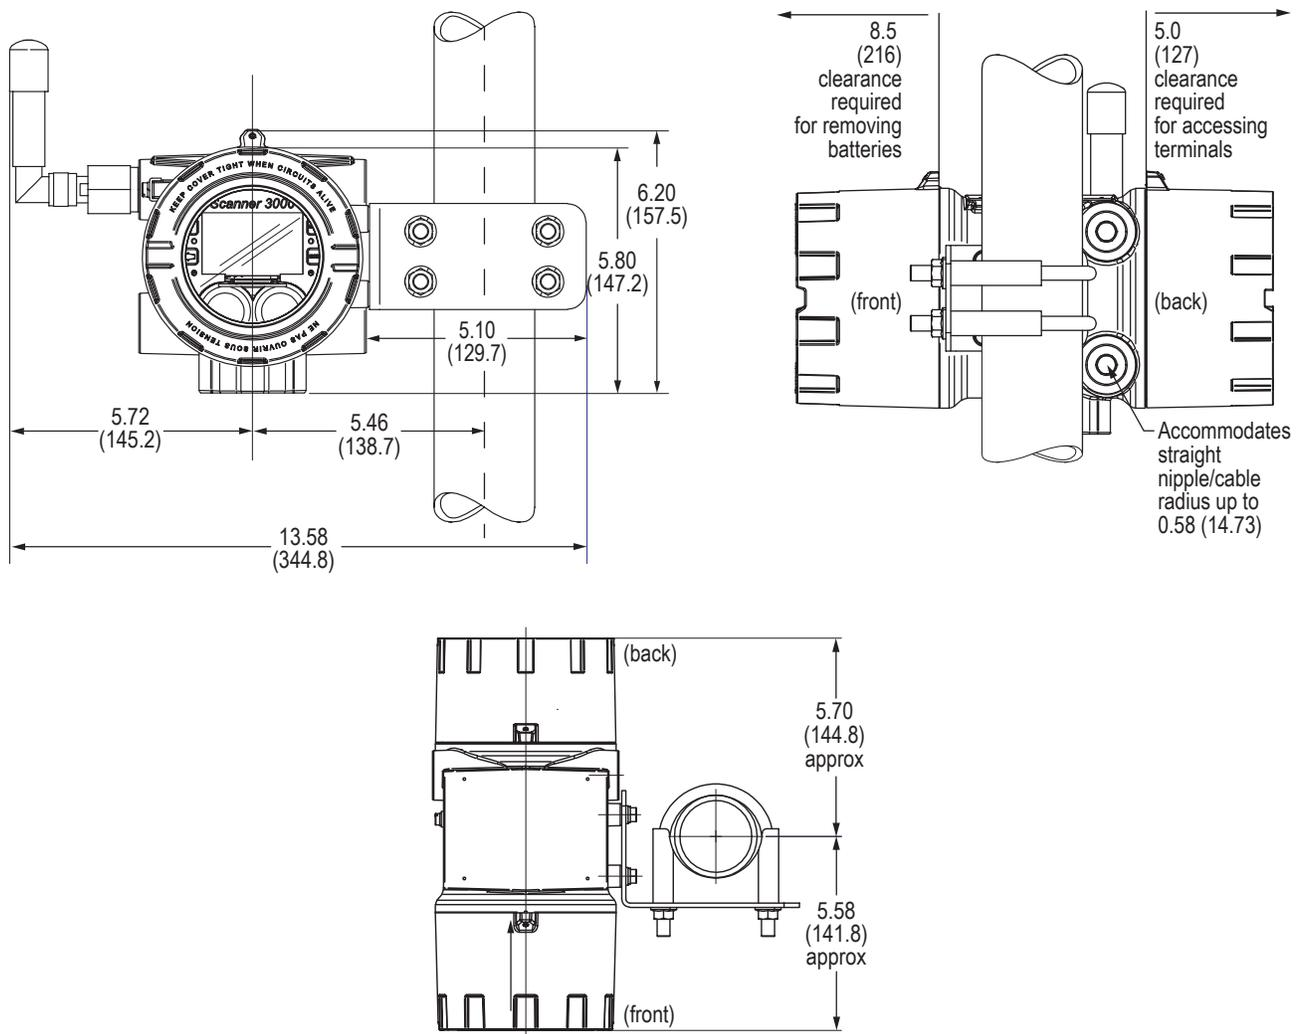

Figure 2.2—Scanner 3100 remote-mounted with a 2-in. pole mount kit; dimensions are shown in inches (mm); see for dimensions with MVT
- **Pole-mount.** The instrument can be mounted on a 2-in. pole using the mounting bosses on the side of the enclosure and a Cameron pole mount kit (as shown in Figure 2.2, page 30). Tubing is used to connect the MVT to the orifice meter or cone meter.
Cameron’s 2-in. pole mount hardware kit (Figure 2.2) is a convenient option for remote-mounting the Scanner 3100. The kit consists of a stainless steel “L” mounting bracket with four mounting holes, two U-bolts, four nuts, and four 10-mm M6 screws.